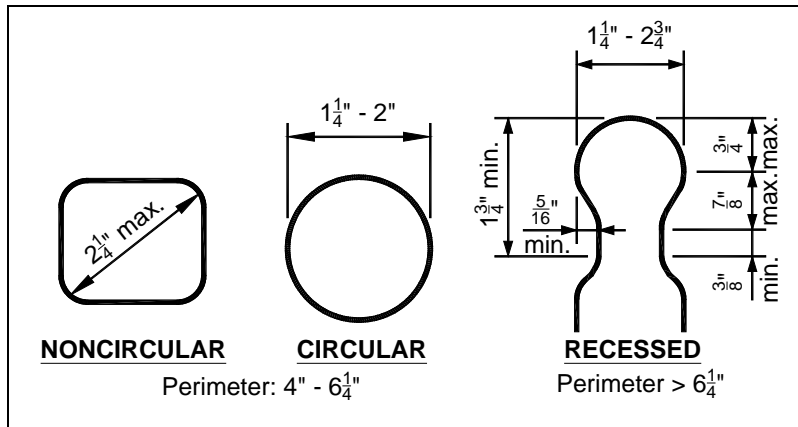

FIGURE 38: HANDRAIL GRASPABILITY TYPES/GEOMETRY
- Handrails shall be graspable per FIGURE 38.